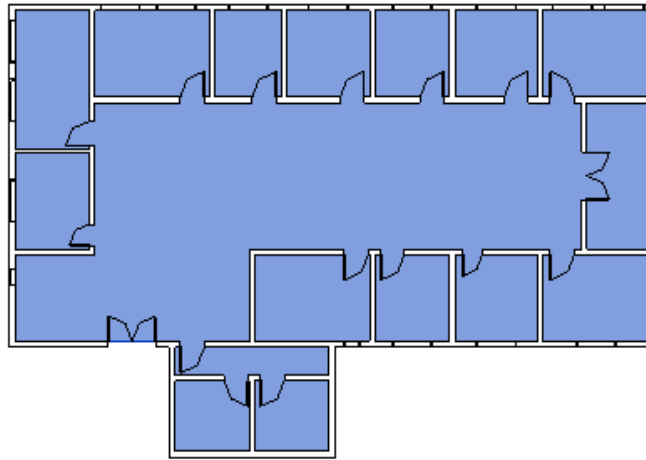

Figure 3-90 The Generic 12" type of the floor created
11. Choose the **Modify** button from the **Select** panel of the **Modify | Floor** tab to exit the **Floor: Architectural** tool. The floor is created for the *Building* project, as shown in Figure 3-90.